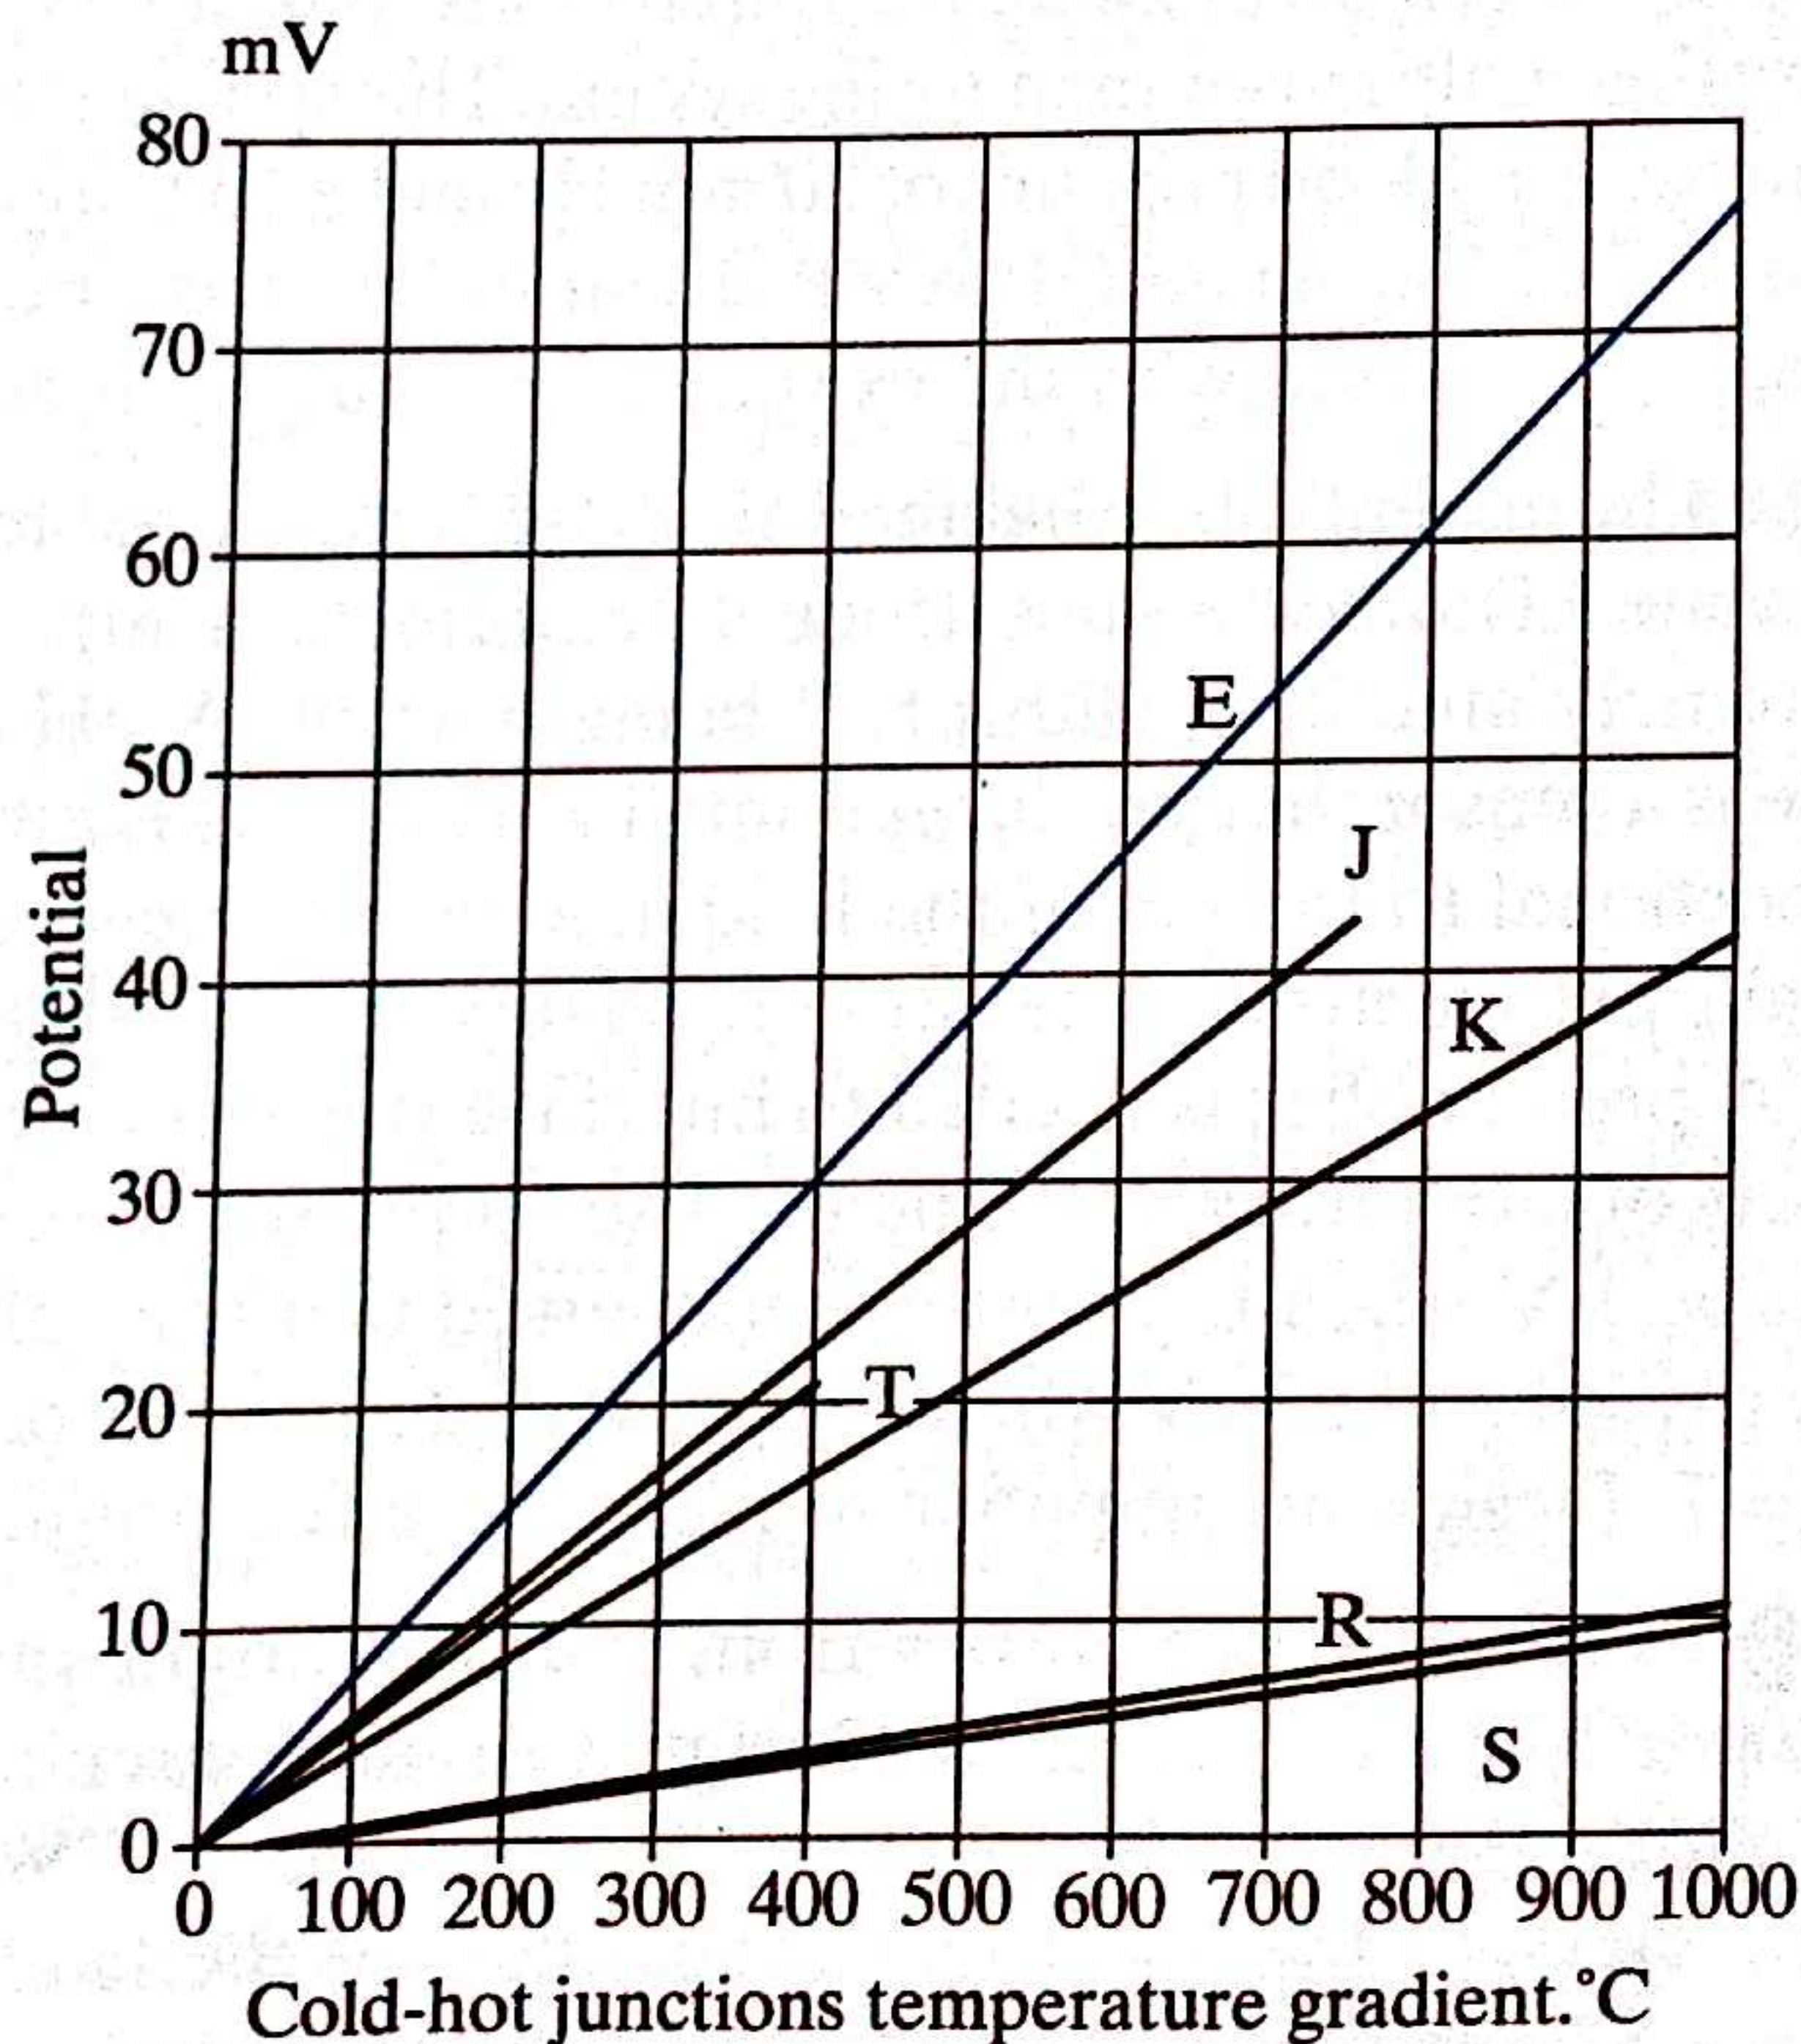

FIGURE P4-55
- 4-55 **D** A Chromel-Constantan thermocouple (curve E) has the characteristics shown in Figure P4-55. Design an interface that will produce a 0–5 V output where 0 V refers to 0°C and 5 V refers to 1000°C. The transducer can be modeled as a voltage source in series with a 15- Ω resistor.
There is a need to design a thermometer that can read temperatures from 350°C to 1100°C to monitor the temperature of a rocket's nose cone. The output will feed a 0–5 V ADC prior to transmission of the temperature data to the ground. A reading of 350°C will deliver 0 V to the ADC, while 1100°C will deliver 5 V. Select from Figure P4-55 an appropriate thermocouple and design the instrumentation amplifier. Other criteria are: that the transducers have a $15\text{-}\Omega$ series resistance; the fewer OP AMPs the better, since power is limited; the maximum OP AMP gain is 1000; and the bias voltage, if needed, must be from the available 5-V supply.